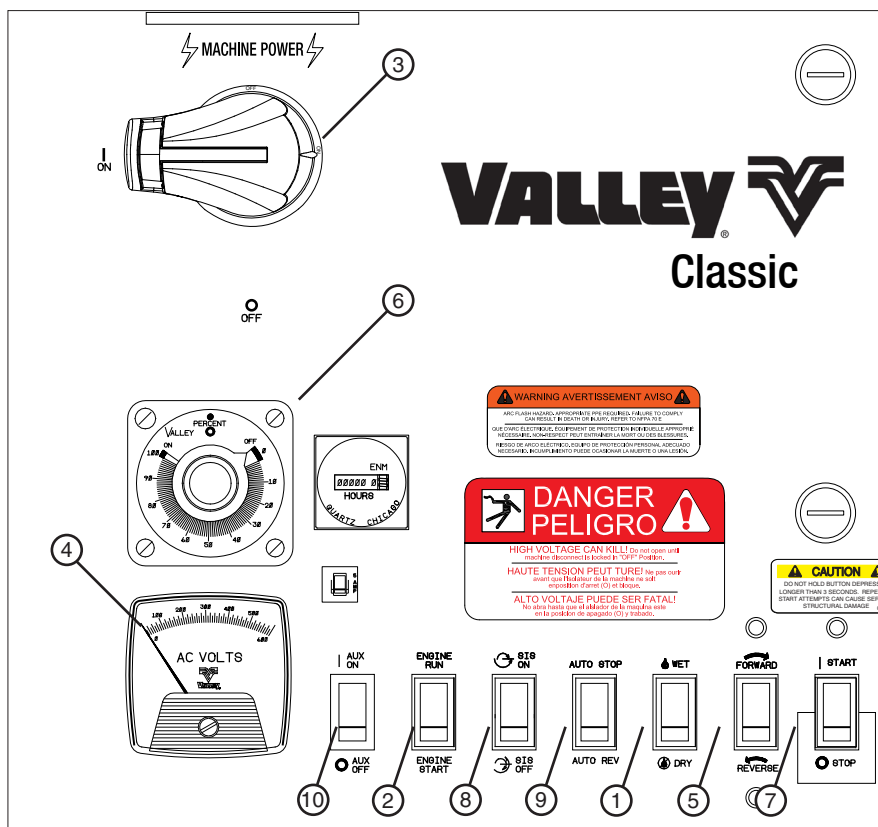

Figure 29-1
2. Place the WET/DRY switch in the DRY position to by-pass the low pressure switch. See Figure 29-1.
3. If an optional engine shut-down circuit is utilized, place the Engine RUN/START switch in the START position. See Figure 29-1.
8. Turn the control panel main disconnect switch to the ON position. See Figure 29-1.
9. If the power is supplied by an engine driven generator, adjust the RPM of the generator until the voltmeter reads 460 – 505 volts. DO NOT EXCEED 505 VOLTS. See Figure 29-1.
10. Place the WET/DRY switch in the WET position. See Figure 29-1.
11. Place the FORWARD/REVERSE switch in either the FORWARD or REVERSE position. See Figure 29-1.
12. Set the percent timer to the desired speed setting. See Figure 29-1.
13. Press and hold the START/STOP switch in the START position for 3 seconds and release. The machine should start. See Figure 29-1.
14. Place the Engine RUN/START switch in the RUN position. See Figure 29-1.
15. If the machine is equipped with the optional stop-in-slot mechanism, place the SIS ON/OFF switch in the desired position. See Figure 29-1.
16. If the machine is equipped with auto reverse/auto stop, place the AUTO REVERSE/AUTO STOP switch in the desired position. See Figure 29-1.
17. If the machine is equipped with the optional Auxiliary ON/OFF switch to control an operation or device, place the Auxiliary ON/OFF switch in the desired position. See Figure 29-1.